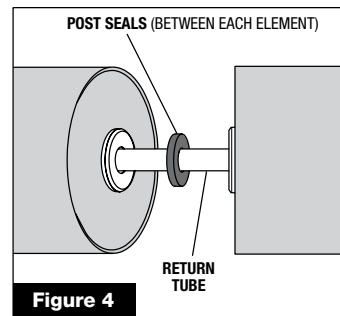

Figure 4
- 15 Load all the elements onto the return tube making sure there is a post seal between each element (**figure 4**).